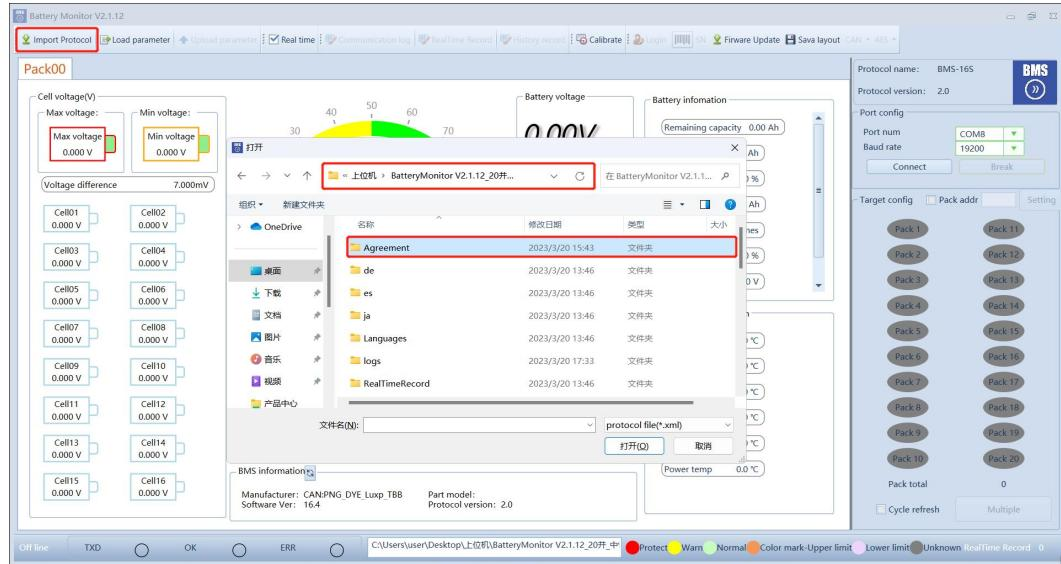

Figure 3-1
- 1) Open the upper monitor, click "Import Protocol", and select "Agreement" in the upper monitor file to open,Figure 3-1